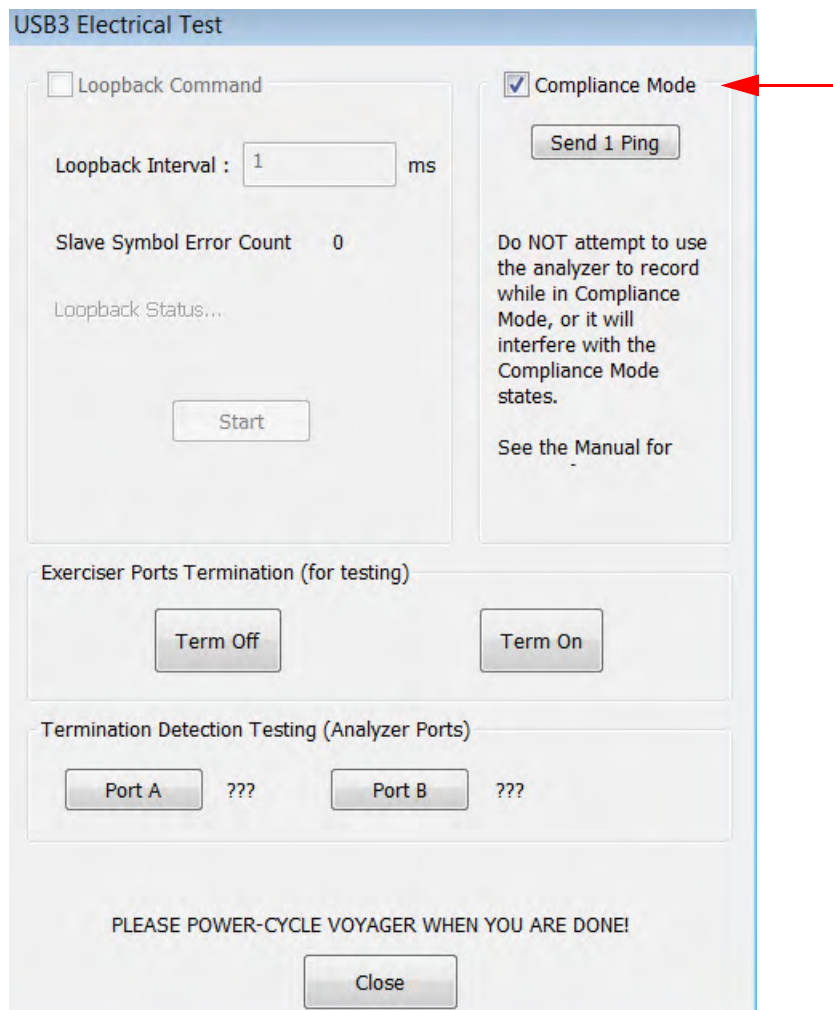

Figure 12.18: USB 3.1 Electrical Test Dialog
4. In the USB 3.1 Electrical Test dialog, check the **Compliance Mode** box (see Figure 12.18 on page 508.)